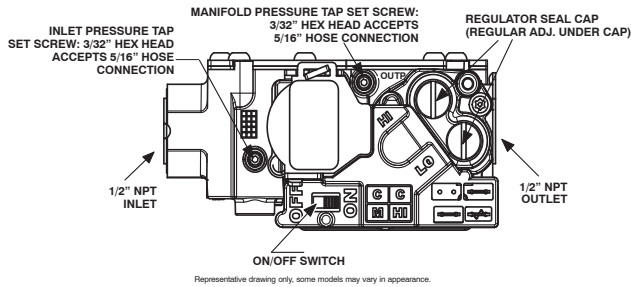

Fig. 60 - Gas Valve with Tower Pressure Ports
1. Adjust manifold pressure to obtain low fire input rate. See Fig. 60.
- h. Remove regulator adjustment cap from low heat gas valve pressure regulator and turn low-heat adjusting screw (3/16 or smaller flat-tipped screwdriver) counterclockwise (out) to decrease input rate or clockwise (in) to increase input rate. See Fig. 60.
2. Adjust manifold pressure to obtain high fire input rate See Fig. 60.
- b. Remove regulator adjustment cap from high-heat gas valve pressure regulator and turn high heat adjusting screw (3/16-in. or smaller flat-tipped screwdriver) counterclockwise (out) to decrease input rate or clockwise (in) to increase input rate. See Fig. 60.